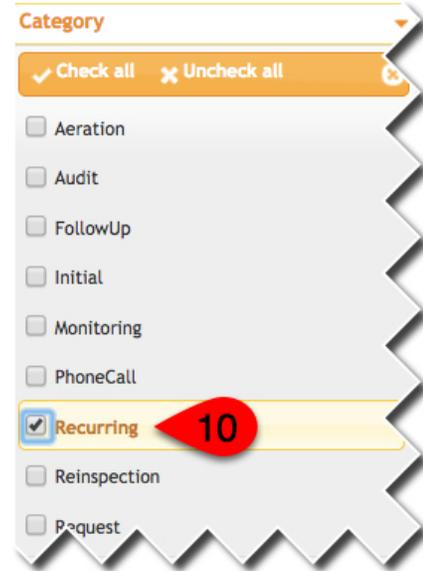

Figure 11
8. Select the route you want to evaluate. They are listed as Service Center number – route number. For example, Route 30 in GreenUP Orange (02) will be listed as 02-30. You may only select one route at a time.
10. Click to checkmark (Fig. 11) each service type that is appropriate for the routes you are evaluating, monitoring for bait monitoring, or the recurring option which will load all recurring or the recurring option which will load all recurring services. After the desired services have been selected, click the x or off screen to proceed. Additionally, you may filter for a specific event by only selecting the checkbox by the desired event(s).